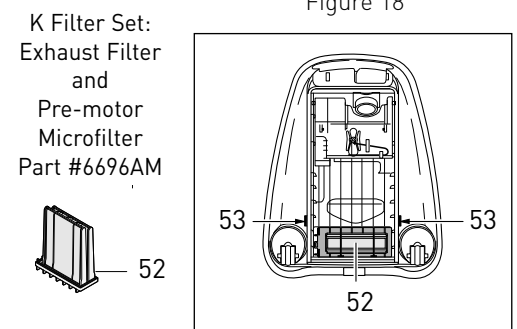

Figure 19
|                                                                                            | 3. Pre-motor microfilter not properly inserted.                             | 3. Remove the filter bag cover (26) and make sure the pre-motor microfilter housing is seated firmly in place (see pg. 12, figure 19). |